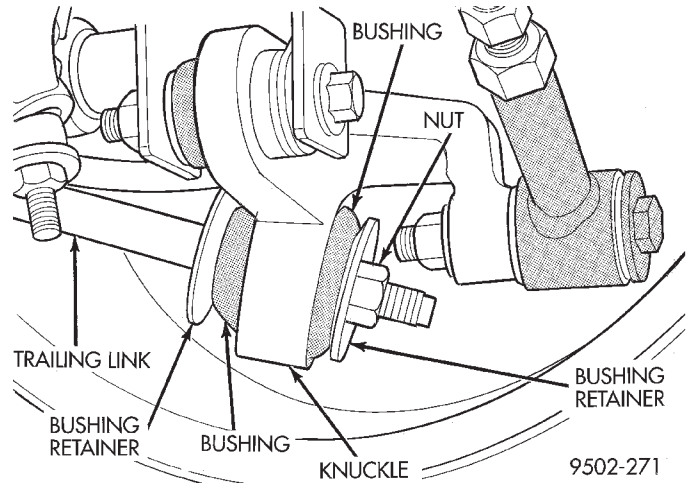

Fig. 35 Trailing Link To Knuckle Attachment
(1) Raise vehicle on jackstands or centered on a frame contact type hoist. See Hoisting in the Lubrication and Maintenance section of this manual, for the required lifting procedure to be used for this vehicle.
(2) Remove rear wheel and tire assembly from the vehicle.
(3) At the knuckle, remove the nut, bushing retainer and outer trailing link bushing (Fig. 35) from the trailing link.
CAUTION: When installing trailing link bushing retainers, the retainers must be installed with cupped side of retainer facing away from bushing and knuckle (Fig. 35).
(5) Install the outer bushing and the (gold) bushing retainer on the trailing link (Fig. 35). Install the retaining nut (Fig. 35) on trailing link. Using a large adjustable wrench on the flat of the trailing link to keep it from rotating tighten the trailing link retaining nut (Fig. 35) to a torque of 95 N·m (70 ft. lbs.).